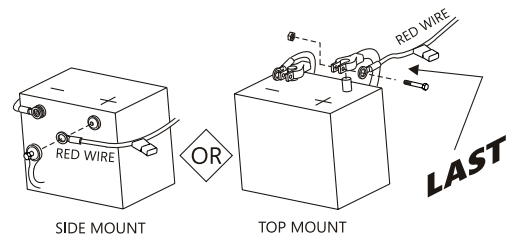

Figure 4-6
7. Attach the red wire to the positive terminal on the battery. **See Figure 4-6.**